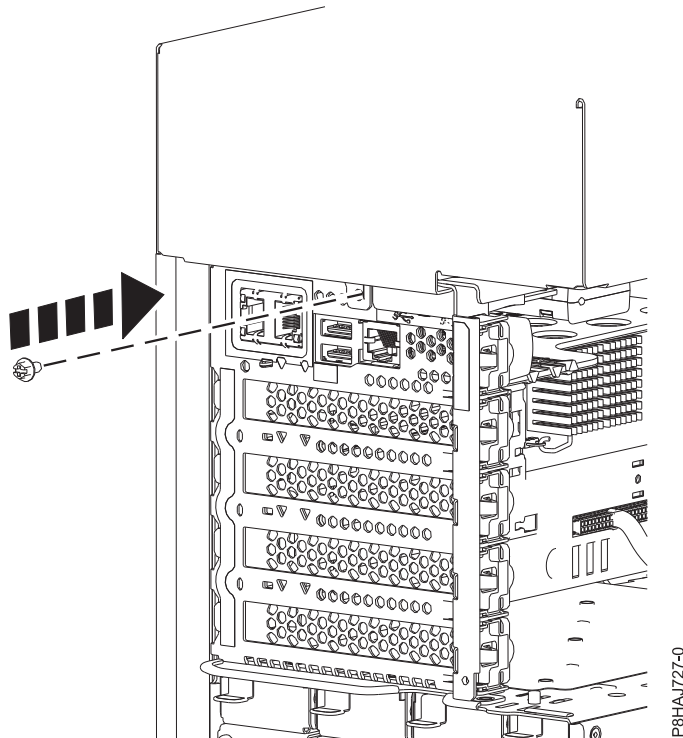

Figure 62. Installing the 8286-41A side cover screw
5. Install the side cover rear screw with a Phillips screwdriver as shown in Figure 62 on page 74.